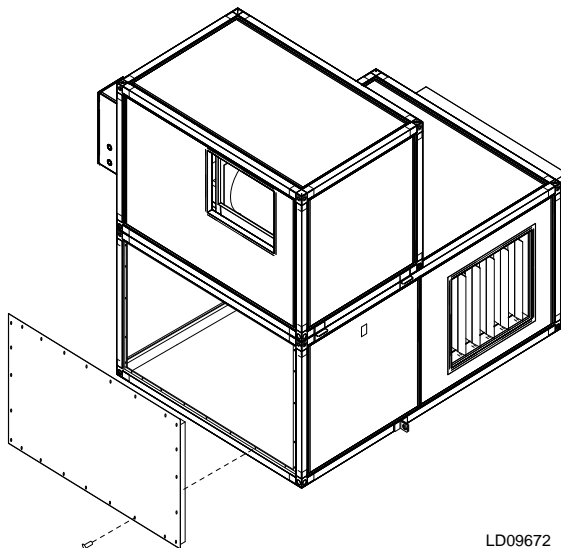

FIG. 5-93 – INSTALL PANELS
4. Install panel on air handling unit carefully using panel screws (*see Fig. 5-93*).